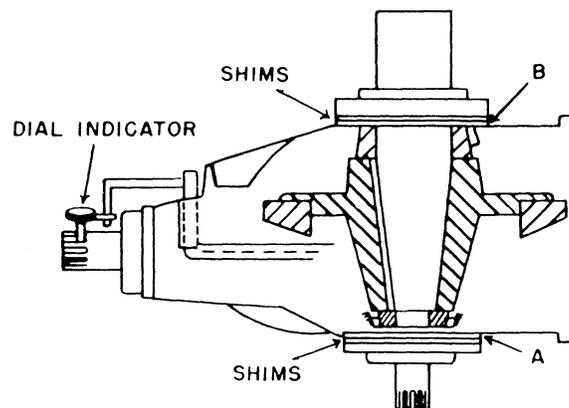

FIGURE 1-11
13. Install bearing (25) on the crankshaft. Be sure it is seated tight against the ring gear hub all the way around. See Figure 1-11.
14. Install lock washer (23) and locknut (22). Tighten the locknut securely and bend one segment of the lock washer into a notch of the locknut to hold it securely in position.
15. Install the same number of shims removed from the gearbox, and install the bearing retainer (21). If a new gearbox or a new ring gear hub is being used, install one 0.003", one 0.005", and one 0.007" shim at this time.
16. Turn the gearbox over on the left side and install bearing (12). Be sure it is seated tight against the ring gear hub all around. See Figure 1-11.
17. Install the bearing race and bearing retainer (11). If the original bearing is being used, install the same shims as were originally used. However, if a new bearing or a new gearbox is being used, install one 0.003", one 0.005", and one 0.007" shim at B, Figure 1-11, at this time.
18. Apply a light coat of Permatex to cover assembly (17) and install it on the gearbox.
At this stage of assembly, the crankshaft should have no end play and the crankshaft bearing should be moderately preloaded. If any end play is present, remove an equal thickness of shims from under the bearing retainer on each side of the gearbox until all the end play is eliminated from the crankshaft, and the crankshaft bearings are moderately preloaded. If the crankshaft bearings bind when the bearing retainers are tightened, add an equal thickness of shims at A and B, Figure 1-11, until the bearings are moderately preloaded.
- b. Mount a dial indicator on the gearbox so the plunger of the indicator contacts the edge of one of the splines on the pinion shaft. See Figure 1-11.
Removing shims from the left bearing cap at A, Figure 1-11, and adding an equal thickness of shims under the right bearing cap, B, increases the backlash between the ring gear and the pinion. Removing shims from the right side at B, Figure 1-11, and adding an equal number of shims on the left side at A, will decrease backlash. Manipulate the shims until the proper backlash is obtained.
- b. If the output shaft bearings do not have sufficient preload, remove an equal thickness of shims from under both right and left bearing caps, A and B, Figure 1-11, until the correct preload is obtained.